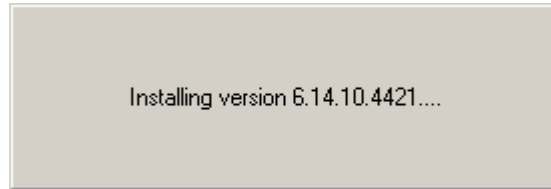

Figure 7-14: Intel® Graphics Media Accelerator Driver Installing Notice
Step 11: Read the license agreement. To accept the terms and conditions stipulated in the license agreement shown, click **YES** and the installation notice appears (Figure 7-14).